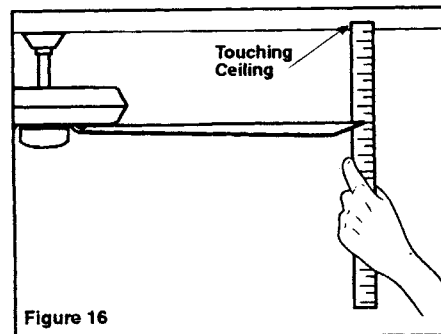

Figure 16
2. Most fan wobble problems are caused when blade levels are unequal. Check this level by selecting a point on the ceiling above the tip of one of the blades. Measure from a point on the center of each blade to the point on the ceiling. Measure this distance as shown in Figure 16. Rotate the fan until the next blade is positioned for measurement. Repeat for each blade. Measurements deviation should be within 1/8". Run the fan for 10 minutes.